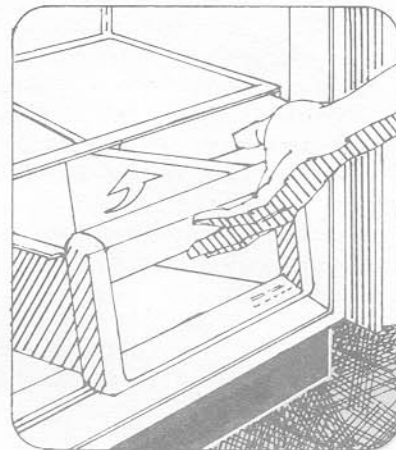

Figure 4
**To remove your crisper drawer,** pull open until drawer stops. Raise front of crisper and pull out as shown in Figure 4. **To reinstall:** With the front of the crisper raised, insert crisper into the tracks. See Figure 4.